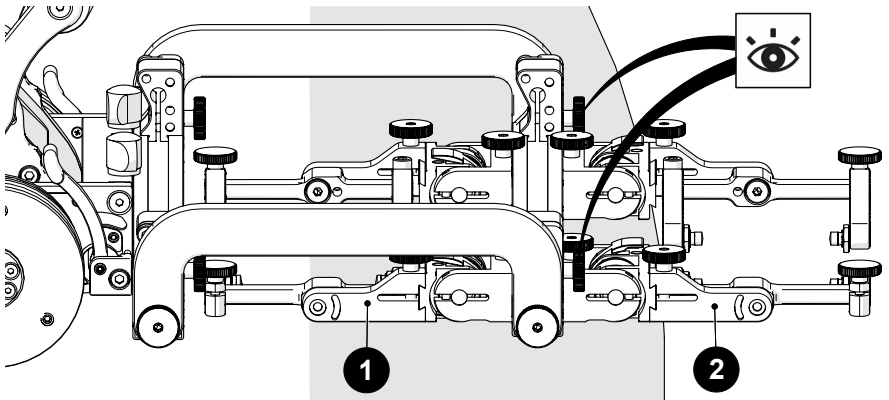

Fig. 154 - Position primary and secondary probe holders
3. Mount the low profile probe holder frame to the crawler (see “Cable Retainer” on page 48). When mounting the low profile frame, ensure the attachment knobs (Fig. 154) are at the front (non-crawler side).